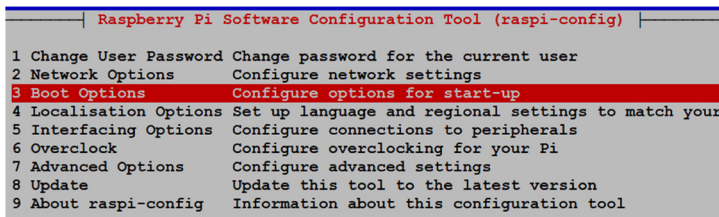

Figure 1.4 Select Boot Options
- Move down to **Boot Options** and press Enter to select (Figure 1.4).